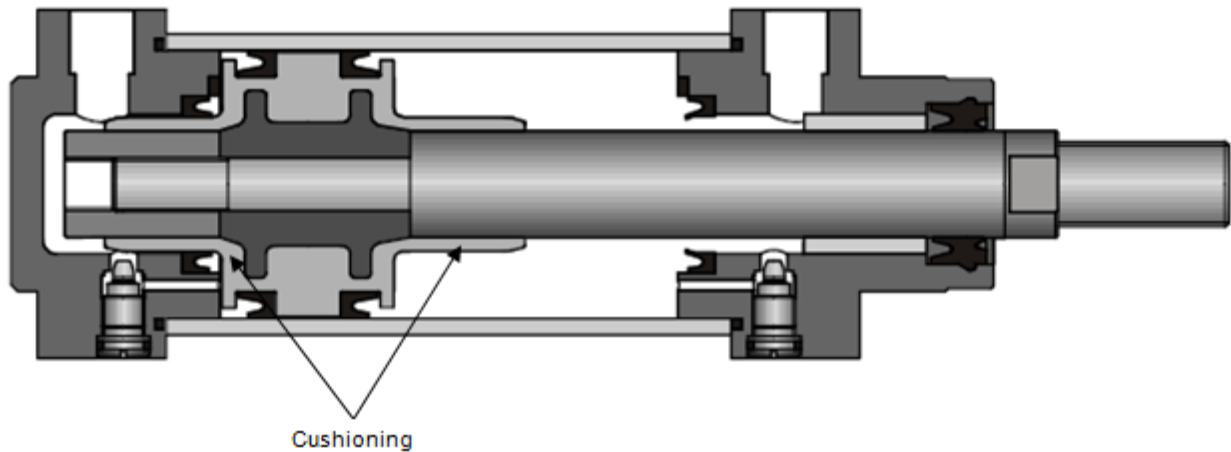

FIG 4.
- B. The use of cushioning to reduce loads on the end caps and mountings during deceleration of the piston is important for long-life and smooth operation. The cushioning piston is shown on the exhaust air side of the piston. The arrow indicates adjustable cushioning and not the direction of cushioned motion. (Fig 4)